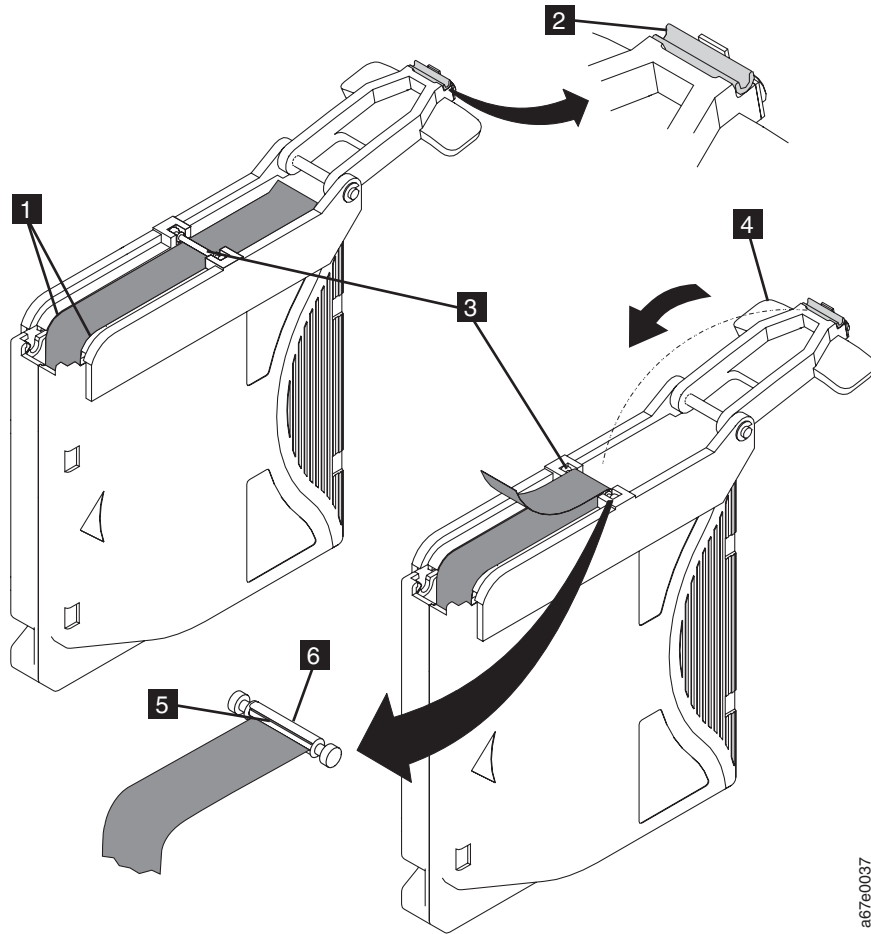

Figure 5-15. Attaching the leader pin to the tape
7. Position the tape in the alignment groove of the leader pin attach tool (**1** in Figure 5-15).
8. Place a new C-clip into the retention groove (**2** in Figure 5-15) on the leader pin attachment tool and make sure that the clip's open side faces up.
9. Place the leader pin (from step 6) into the cavity (**3** in Figure 5-15) of the leader pin attach tool.
10. Fold the tape over the leader pin and hold it with your fingers (see Figure 5-15).